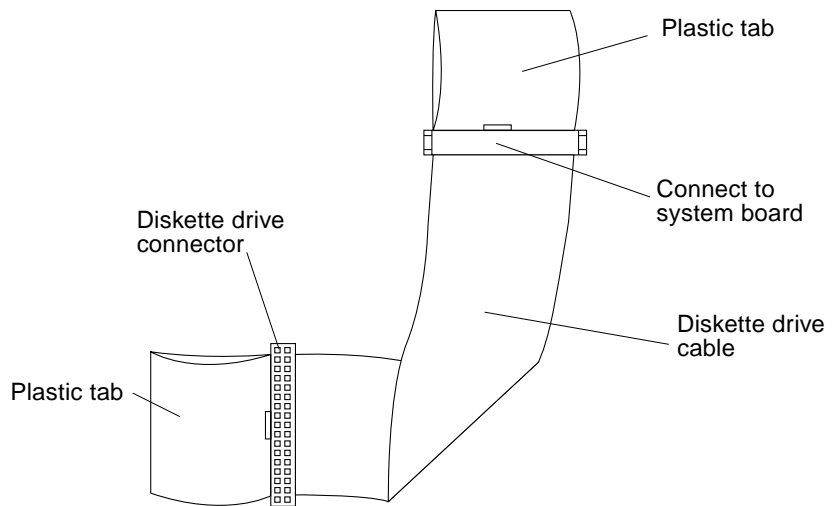

FIGURE 8-44 Diskette Drive Cable Plastic Tab
6. Pull the plastic cable tab to disconnect the diskette drive cable from the system board (FIGURE 8-44).
Note – The replacement diskette drive cable should be folded at an angle to connect properly. See FIGURE 8-44.